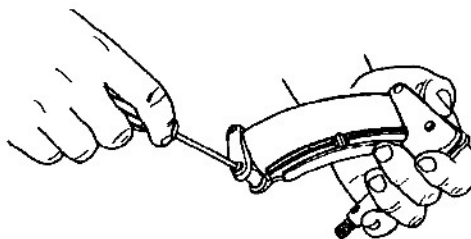

Fig. 59
68. Use a small Phillips screwdriver to remove the screw (349) located at the butt of the miter gauge safety grip, as in Fig. 59. Save the very small, thin washer (346) held in place by the screw.